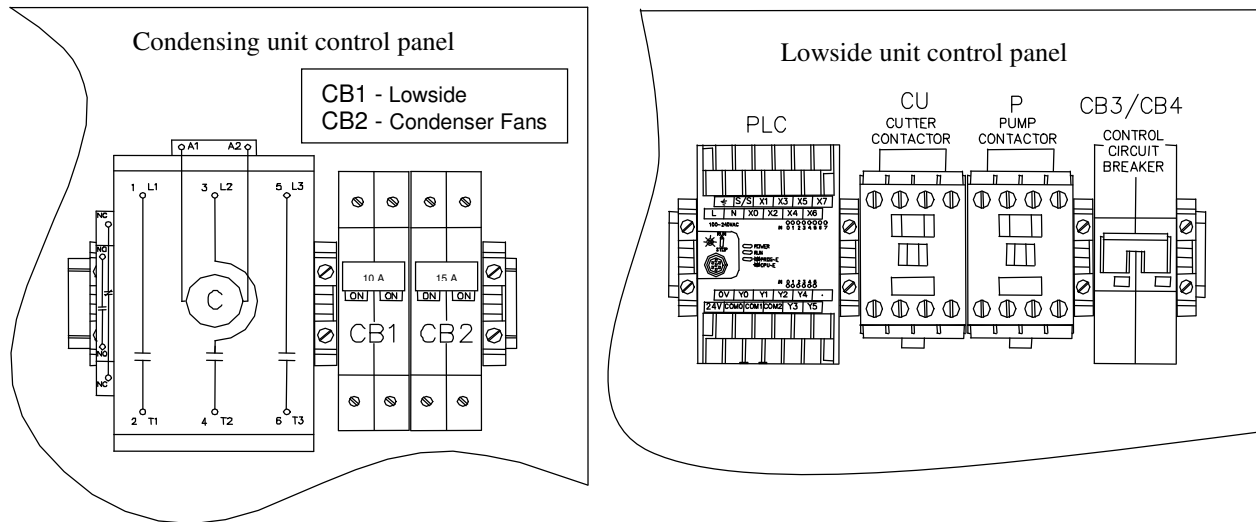

FIGURE 4-2
7. Energize unit two (2) hours prior to starting to energize crankcase heater.
8. Ensure that circuit breakers in condensing unit control panel are in the "on" position. (Figure 4-2)